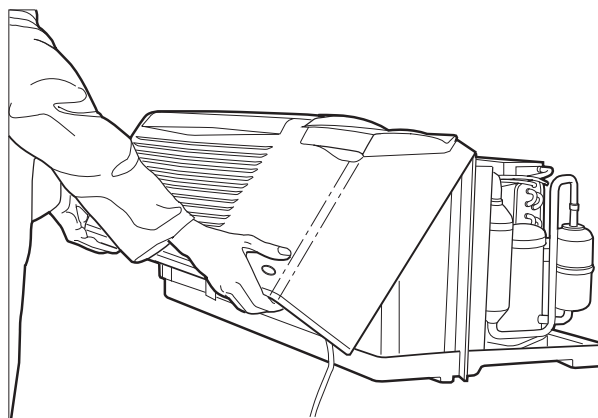

Fig. 2 — Removing Front Panel
- Step 2** — Remove front panel from unit by grasping the panel firmly near the bottom of both sides, then pulling the panel forward and upward to release magnetic latches and partition hooks. See Fig. 2.